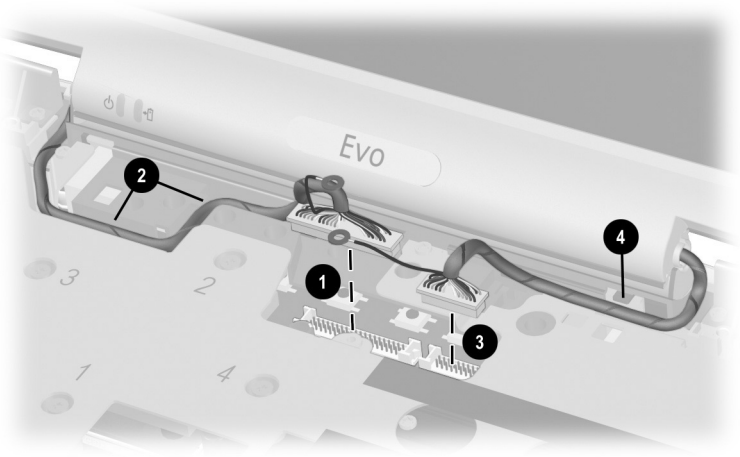

Figure 5-22. Disconnecting and Unrouting the Display Cables
10. Disconnect the display backlight cable ❶ from the system board and unroute the cable ❷ from the heat spreader.
11. Disconnect the display video cable ❸ from the system board and unroute the cable ❹ from the heat spreader (Figure 5-22).